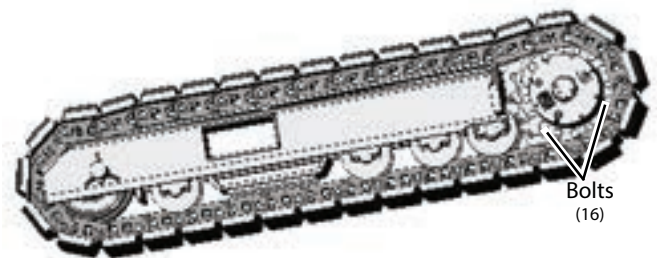

Figure 5-30. Torque Hub
7. Remove bolts holding torque hub to track undercarriage. **(Figure 5-30)**